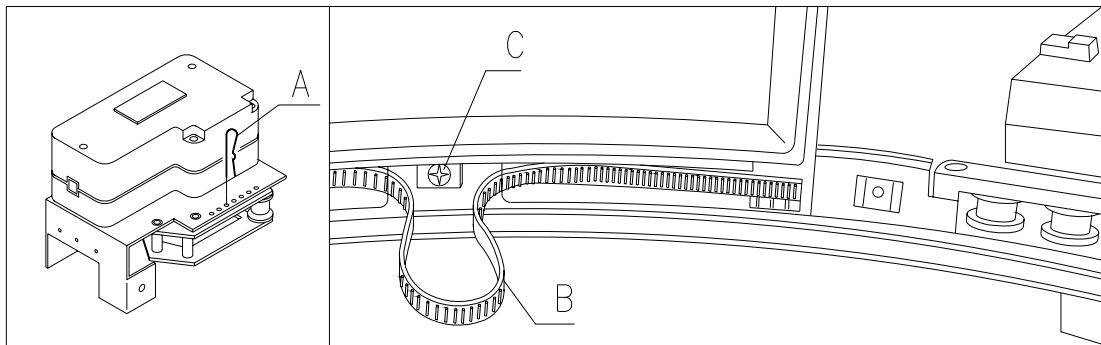
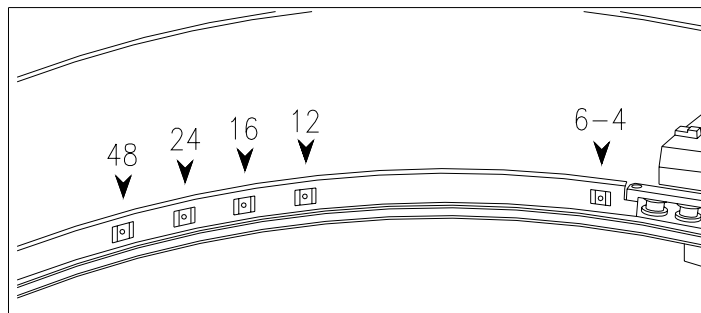

FIG. 13
FIG. 14
- 2) Add or remove the divider plates in the central hub of the drum FIG. 13;
8.6 ADJUSTING OPENING OF THE DELIVERY DOORS FIG. 13 - FIG. 14
6. Figure 13 illustrates the position of the stop in the various configurations: 4-6-12-16-24-48 compartments.